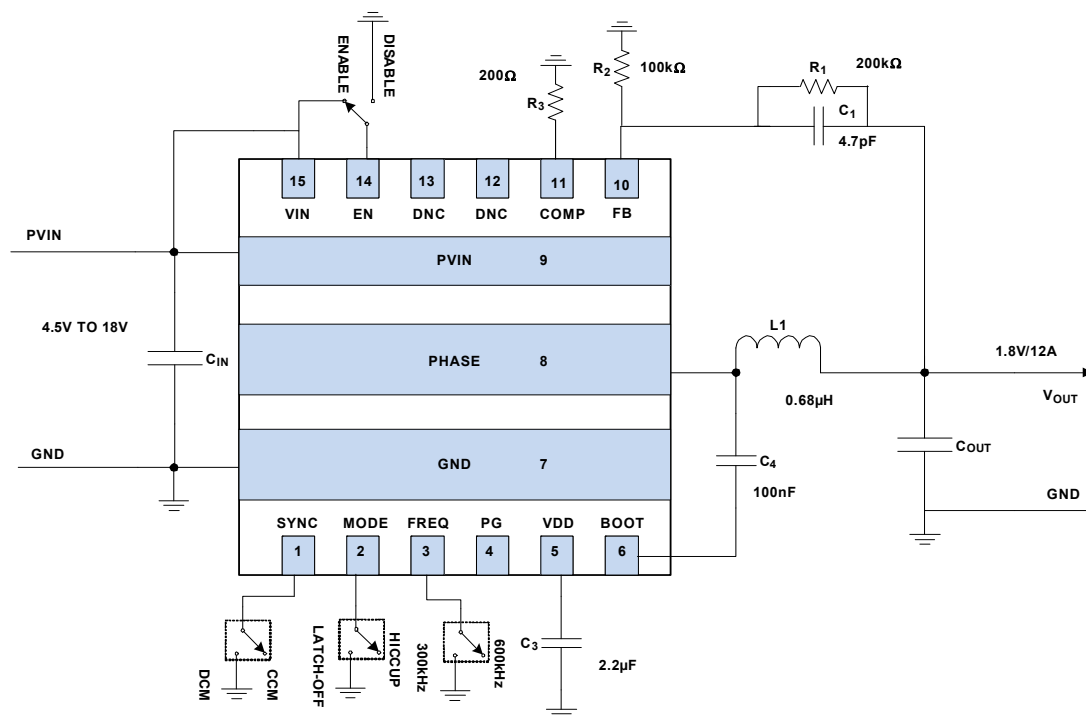

FIGURE 1. BLOCK DIAGRAM
1. The design table is referencing the schematic shown in Figure 1.